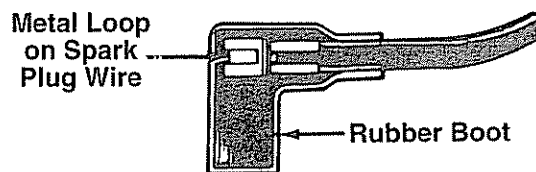

FIGURE 8.
- Connect spark plug wire to spark plug. Make certain the metal loop on the end of the spark plug wire (inside the rubber boot) is fastened securely over the metal tip on the spark plug. See figure 8.